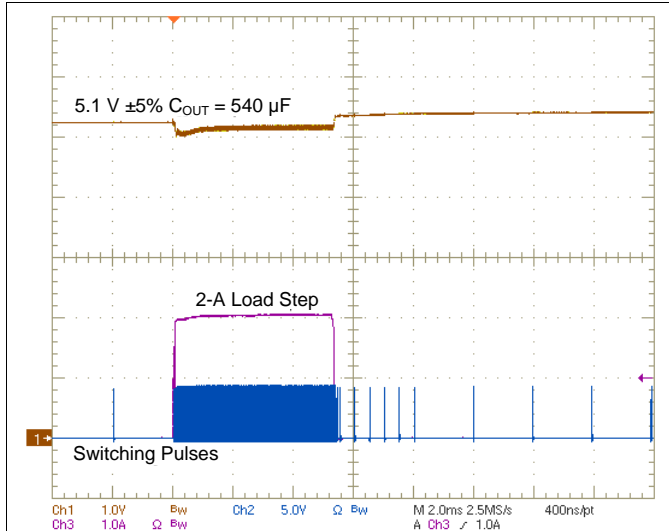
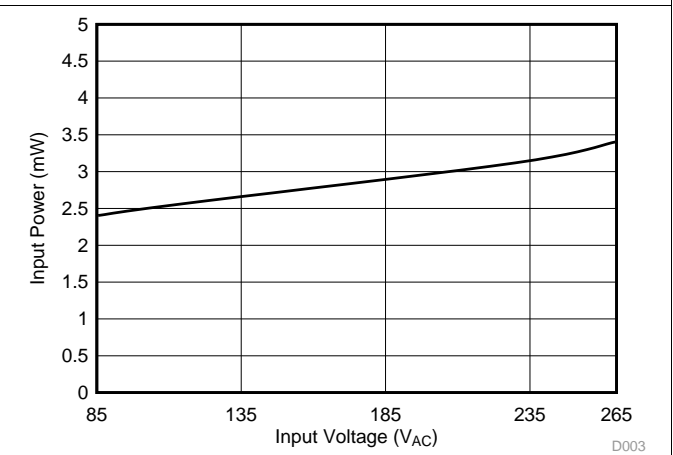

Figure 24. 2-A Load Step During Stand-by Operation
Figure 27. No-Load Input Power Consumption for a 5-V, 10-W Converter
The following figures indicate the transient response of a 5-V, 10-W flyback converter which receives a pulsed step-load of 2 A while operating in the no-load stand-by condition. Figure 27 indicates the no-load stand-by input power consumption achieved by this converter over the full AC input range. Zero-Power operation is achieved while retaining fast transient response to a full load step.
1. Minimize stray capacitance on the VS node. Place the voltage sense resistors (R_{S1} and R_{S2} in Figure 24 through Figure 27) close to the VS pin.